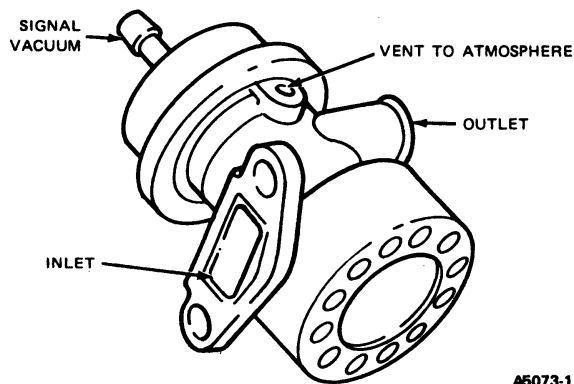

FIG. 4 Normally Closed Pump Mounted Air By-Pass Valve with EGR Air Pressure Tap
7. If available, install the thermactor pump pressure gauge (Rotunda Tool #T75L-9486-A or equivalent) to the air by-pass valve outlet using a short length of appropriate diameter hose. If the air by-pass valve has two outlets, plug the one without the tester. If the air by-pass valve has a small pressure outlet, as pictured in (Fig. 4) install a pressure gauge on this port. Start the engine and increase engine speed. Observe the pressure produced at the test gauge(s). Refer to the chart in II. H.